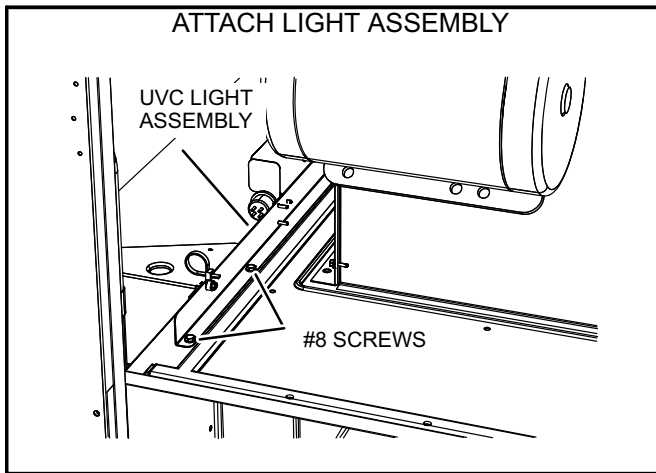

FIGURE 34
- 8- Carefully place the UVC assembly on the blower deck. Line up the mounting holes on the UVC assembly with the mounting holes on the blower deck. See figure 34. Use the #10 screws provided to attach the UVC assembly in place.